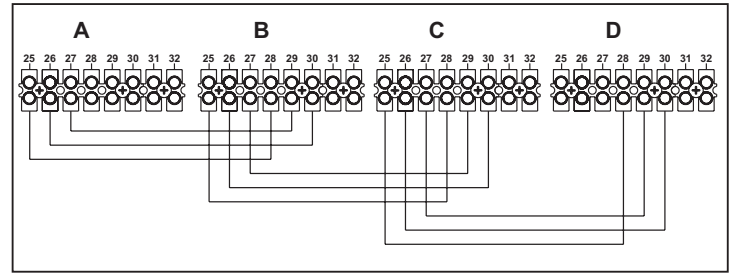

fig. 23 - Connection in cascade
1. Connect the modules as shown in fig. 23
If this does not occur, disconnect the power and check the wiring in fig. 23.